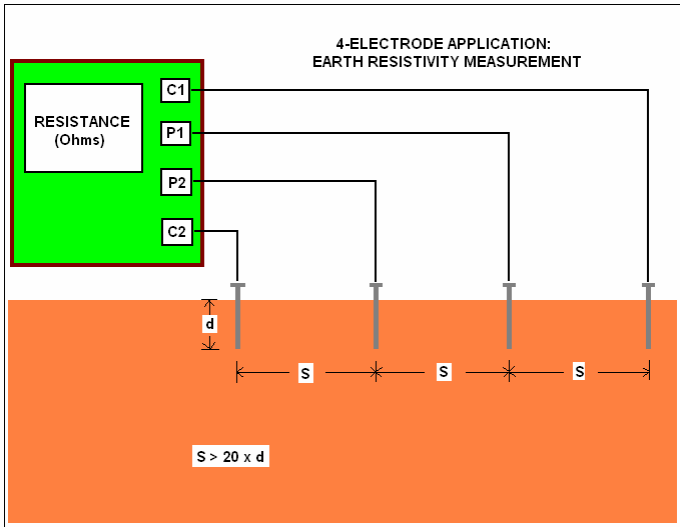

Figure 1
A schematic of this arrangement is illustrated in Figure 1 below.
The H-4385 can be used in conjunction with the 4-lead (color-coded) test reel and four heavy-duty (stainless steel) electrodes (soil pins) – (H-4388). The test leads are connected to the H-4385 as shown in Figure 1. With this arrangement, the H-4385 effectively measures the earth's average resistance to a depth equal to the electrode spacing (S).